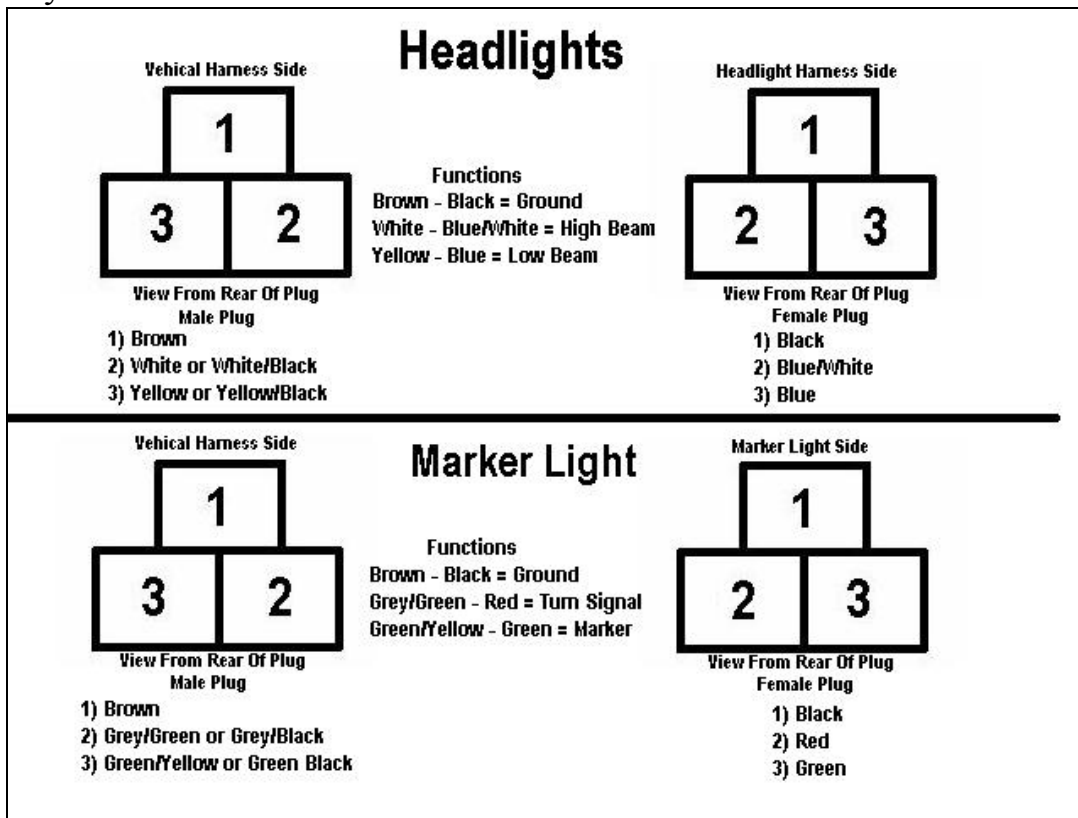
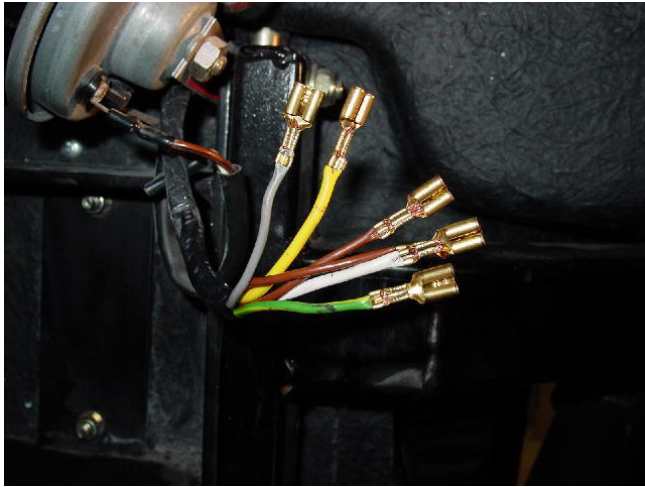
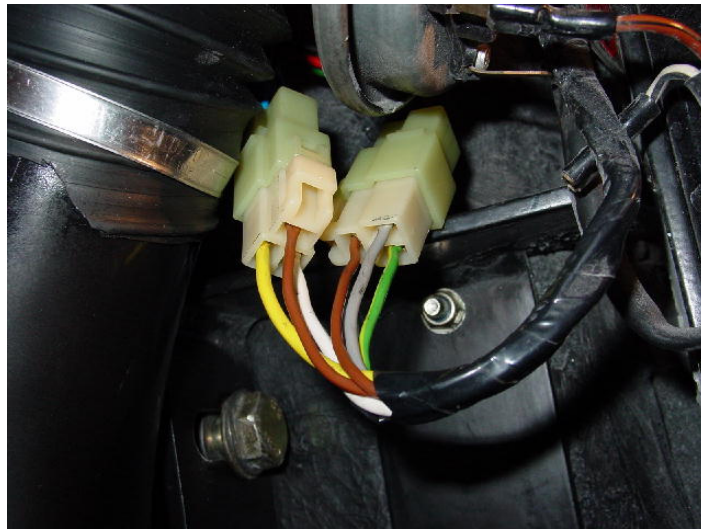

Fig. 14
Fig. 15
Fig. 17
11. Using the diagram in Fig. 14, install the headlight harness plug and marker light plug. Be sure the spade connectors seat completely in the plugs.
12. Install 6 female spade connectors onto the chassis harness wiring as shown in Fig. 15.
13. Install 2 female plugs using Fig. 14 as a location guide. Fig. 15
14. Plug the two plugs into the headlight and marker plugs. Use Fig. 14 as a guide to the plug matching. Fig. 17
15. Zip-tie the harnesses out of the way of the wheel. In Fig. 14 the plug are tucked behind the duct hose for protection.